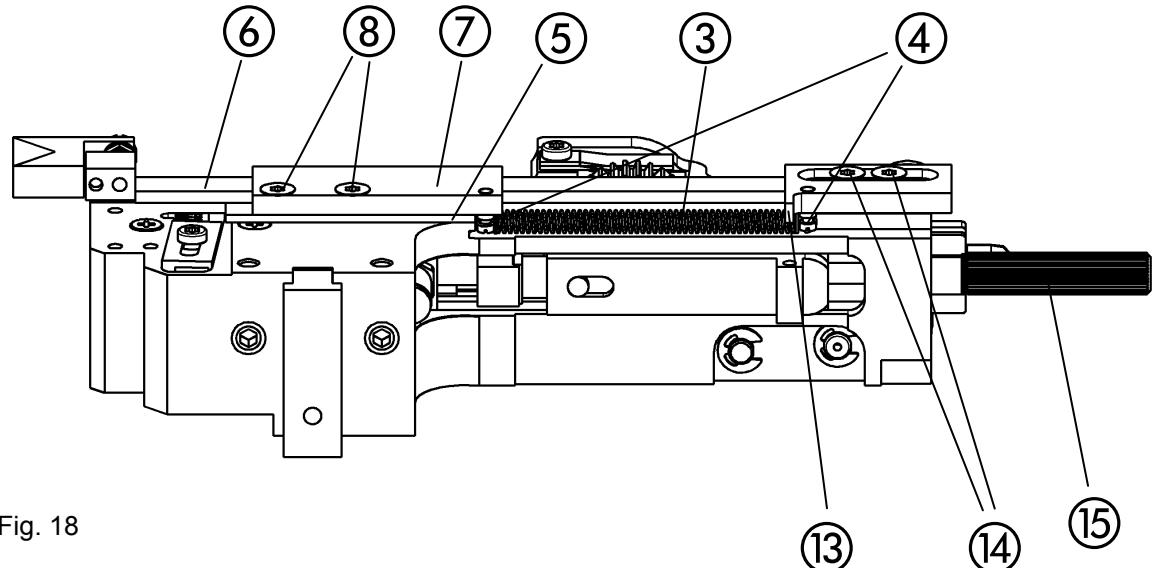

Fig. 18
- Fig. 18 -
- Attach tension spring ③ to the two spring bolts ④.
- Mount distance plate ⑤ on stitching head.
- Insert slotted screw ⑩ laterally into the clincher box mounting.
- Fix slide ⑨ with slot on slotted screw and tighten lightly using the locking nut ⑪.
- Push the complete slide ⑨ against the clincher box.
- Align the V-block of the slide to the center of the clincher box with the help of the M5 setscrew ⑫ .
- Tighten the locking nut ⑪.
- Fig. 18, Fig. 18a, Fig. 19 -